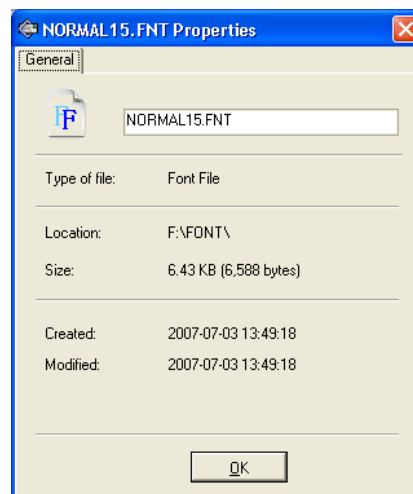

Fig. 6.15 Properties of font
*Properties*: it shows the information such as the size and foundation date of the file, etc. Please see the Fig.6.15, it is the properties of that font file. And users can see the properties of display files too.